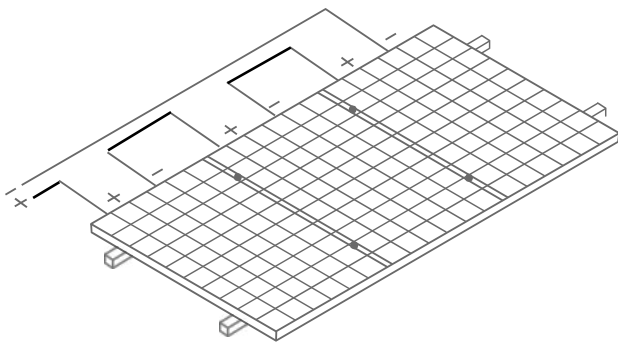

Figure 5. Connection in Series
- It is not allowed to use the Modules in different models in the same solar photovoltaic system. When the Modules are connected in series, the voltage of every string shall not be higher than the maximum voltage of the system (as shown in Figure 5). Reference equation of the maximum number of the Modules in serial connection:  $\text{maximum system voltage of the module} / (1.25 * \text{open-circuit voltage})$ , Please refer to the country's or local regulations for details.